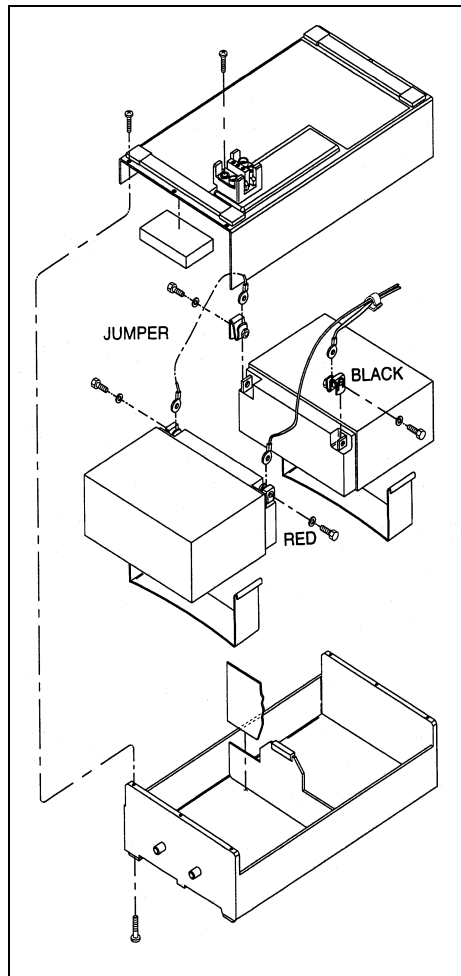

FIGURE 5-5 Battery Assembly, Exploded Isometric View
3. (See Figure 5-5) Remove the top cover. Remove the jumper and the cable assembly from the battery terminals, being careful not to contact adjacent terminals.
*This battery assembly is used when the **CS300** is ordered with a docking station. Refer to FIGURE 5-5 for an illustration of this battery assembly.